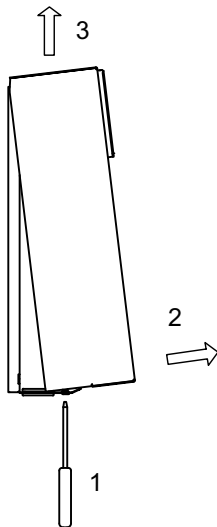

Abb. 3.2: Open the cover
- Open the controller cover (Fig. 3.2 on page 4)